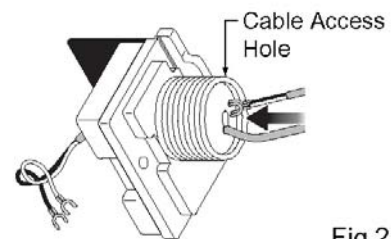

Fig.2
9. To access the cable screws rotate the Quick Cable Connector 90° counterclockwise. (Fig. 2)
13. Insert wire cable through the Cable Access Hole so that it can be accessed from the back. (Fig. 2)